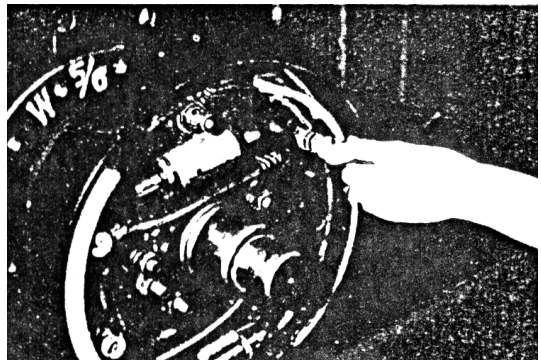

Fig. 8-11
(3) Remove three hold-down springs. (See Fig.8-11) Fig. 8-10